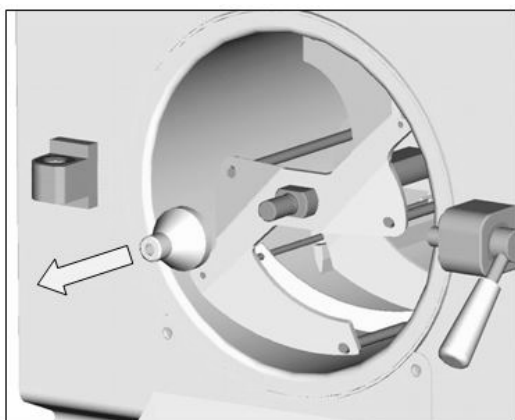

Fig.10
- Remove the centering bushing (Fig. 10). Remove the O-ring contained therein (Fig. 11).